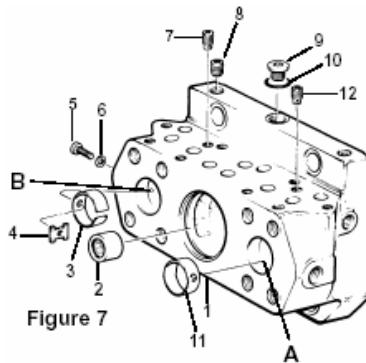

Figure 7
See Figure 7. Position the port block (1) on a clean flat surface with the two open ports up. **THE OPPOSITE FACE MUST NOT BE SCRATCH OR DAMAGED.** Position needle bearing (2) on tool (figure T-5) with the marked end of the bearing against the shoulder on the tool and press the bearing (2) into the port block. The bearing must be .010" - .025", 0,254 – 0,635 mm below the surface.
PARTS LIST FOR FIGURE 7